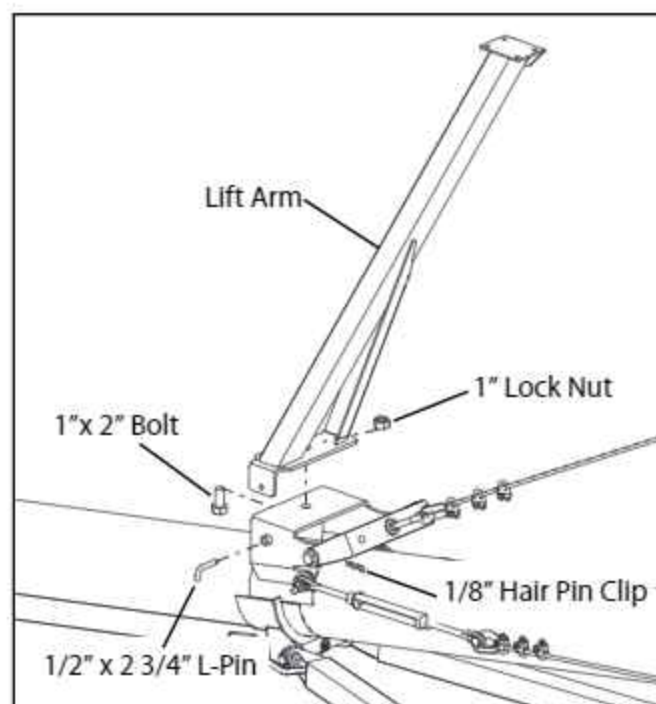

FIG. 3-32. Lift Arm Installation
6. Install the Lift Arm onto the saddle on the tube so the long extended arm is on the side that the swing auger will be transported on. In most cases, this will be the left side. See Fig. 3-32. Secure the lift arm in place using a $1" \times 2"$ bolt and lock nut. Do not fully tighten the nut, the Lift Arm should be able to rotate. Insert the $1/2" \times 2\ 3/4"$ pin through the base of the Lift Arm and the mount welded to the tube. Secure in place with a $1/8"$ hair pin clip.